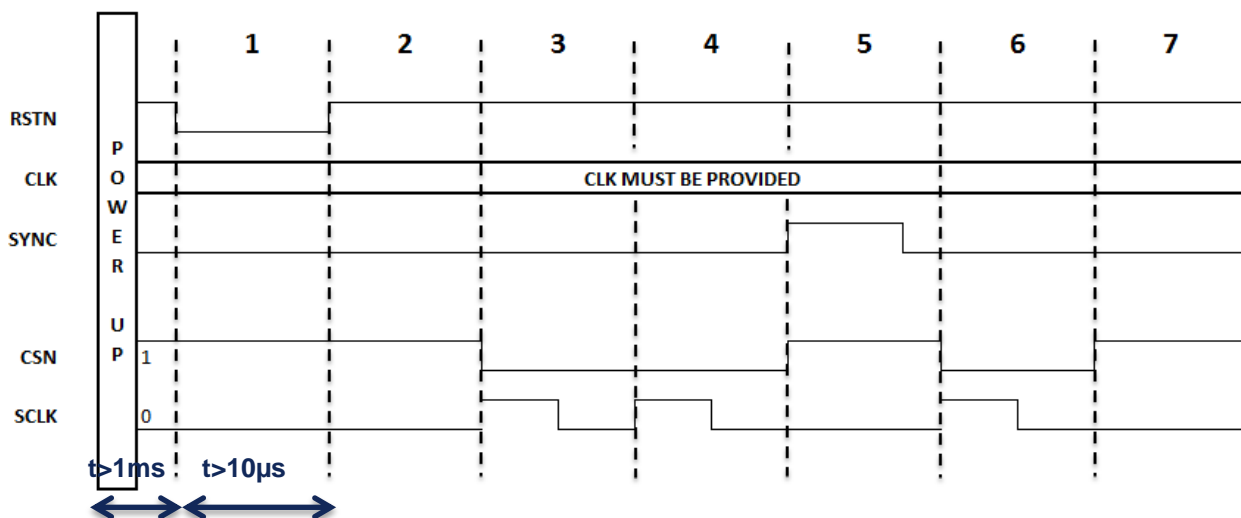

Figure 11: Start-up sequence when using the SPI interface
Figure 11 presents the reset and synchronization to realize after power-up when the SPI interface is used (see section Serial Peripheral Interface for more information on the SPI interface).
5. A pulse is applied onto the SYNC input to reset the internal clocks (SYNC signal in Figure 11). At this stage the bit 7 of register `CHIP_CTRL` must be at '0' (trigger mode disabled) – see section SYNCTRIG input;